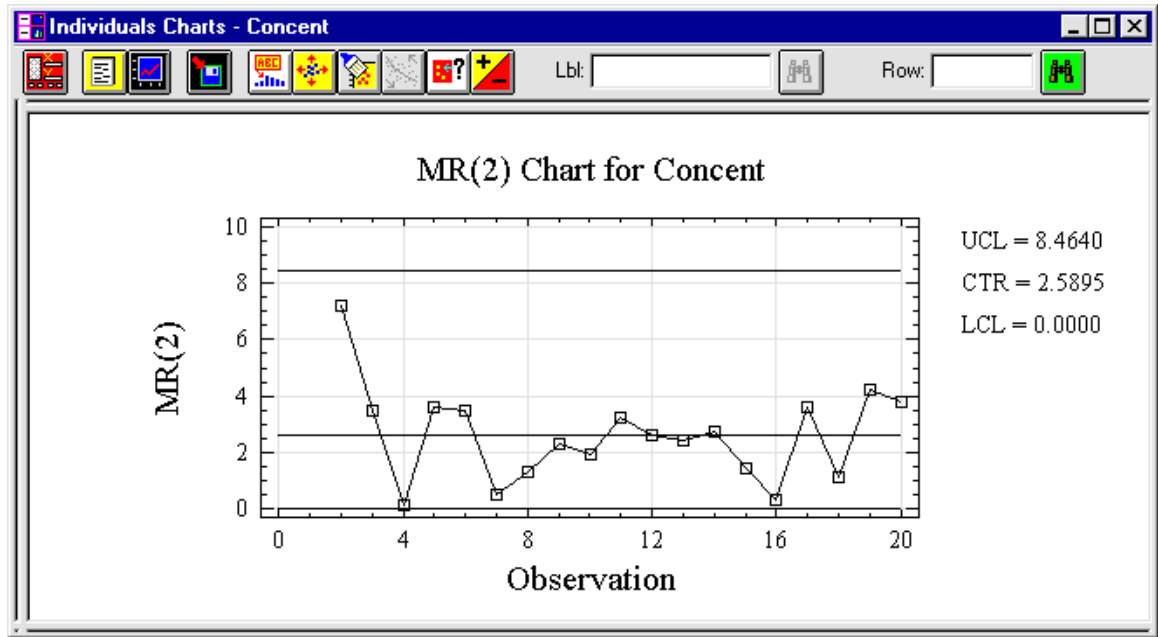

Figure 2-1. MR(2) Chart
3. Click the Graphical Options button to display the dialog box, then click the MR(2) Chart option, and OK to display the chart. Maximize the chart (see Figure 2-1).